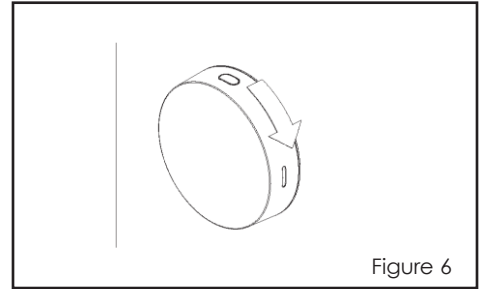

Figure 6
5. Fit the sensor on the mounting bracket, rotate and lock in position. (Figure 6)